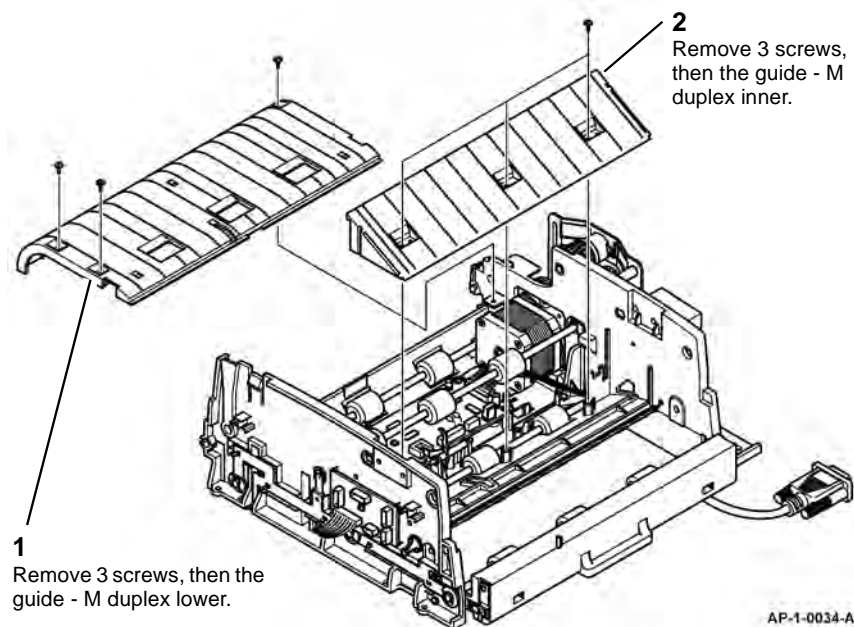

Figure 16 Guide removal
17. Remove the guides, Figure 16.